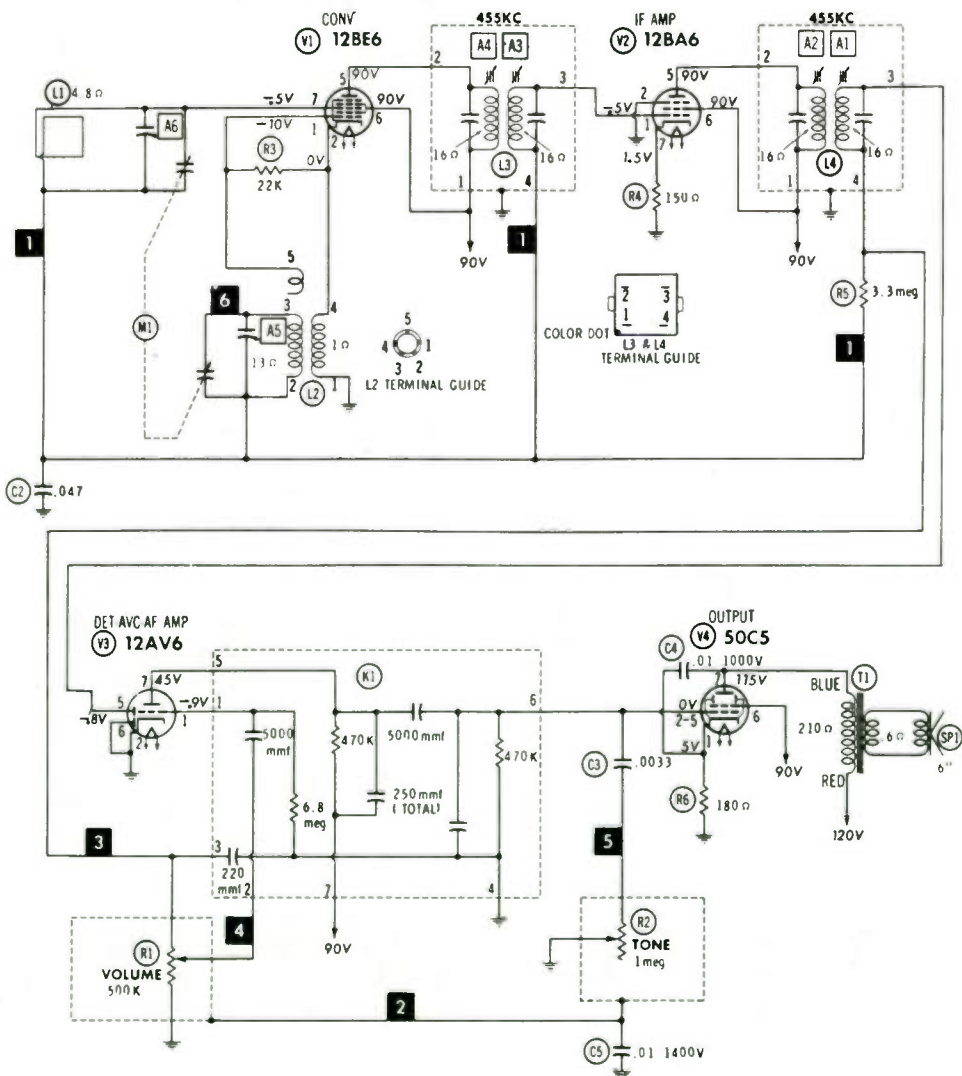

Figure 27 — Schematic of radio, less power supply.
2. If the DC voltage at pin 7 of V5 is all right, the next step is to find out whether the "low" voltage is available. Check it from pin 6 of either the 12BE6 or 12BA6 tube in Figure 27. As the diagram shows, it should be approximately 90 volts.
Quick Check: First make a quick check, using the signal injection technique described in previous lessons. Apply an audio signal to test point 4, identified by the number 4 in the black square on the schematic of Figure 27. As you can see from the circuit diagram, the signal will be fed into the AF amplifier (driver stage) and then to the output amplifier. Thus, you should hear sound from the speaker. If you don't, you know the audio portion of the set is not working and you will have to apply the audio to points progressively closer to the output until you locate the points from which a signal is heard in the output. The problem will immediately precede this point.
Unfortunately, whenever any part *within* the unit is defective, usually the whole unit must be replaced. In Figure 27, for example, if you fed a test signal onto the plate of the 12AV6 (pin 7) and heard nothing from the speaker, but did hear a signal when you inserted the test signal at pin 2 on